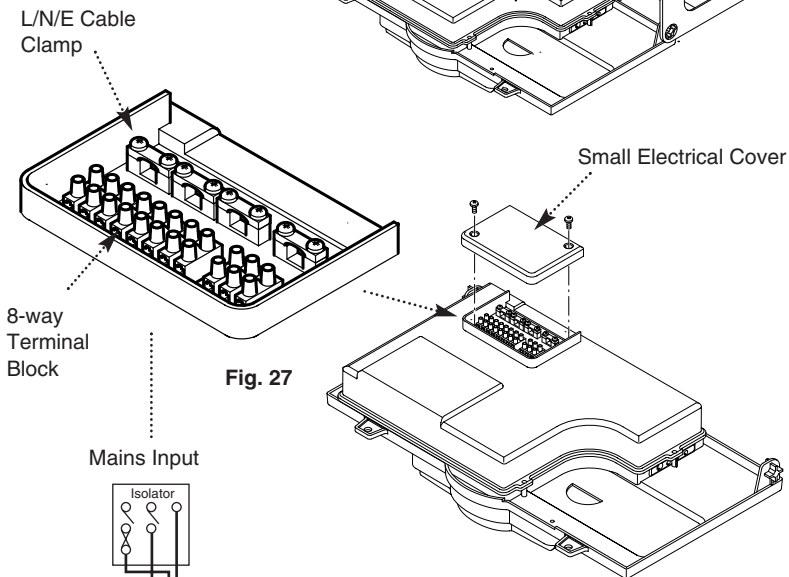

Fig. 27
1. Undo the two screws securing the small electrical cover and remove (Fig. 27).